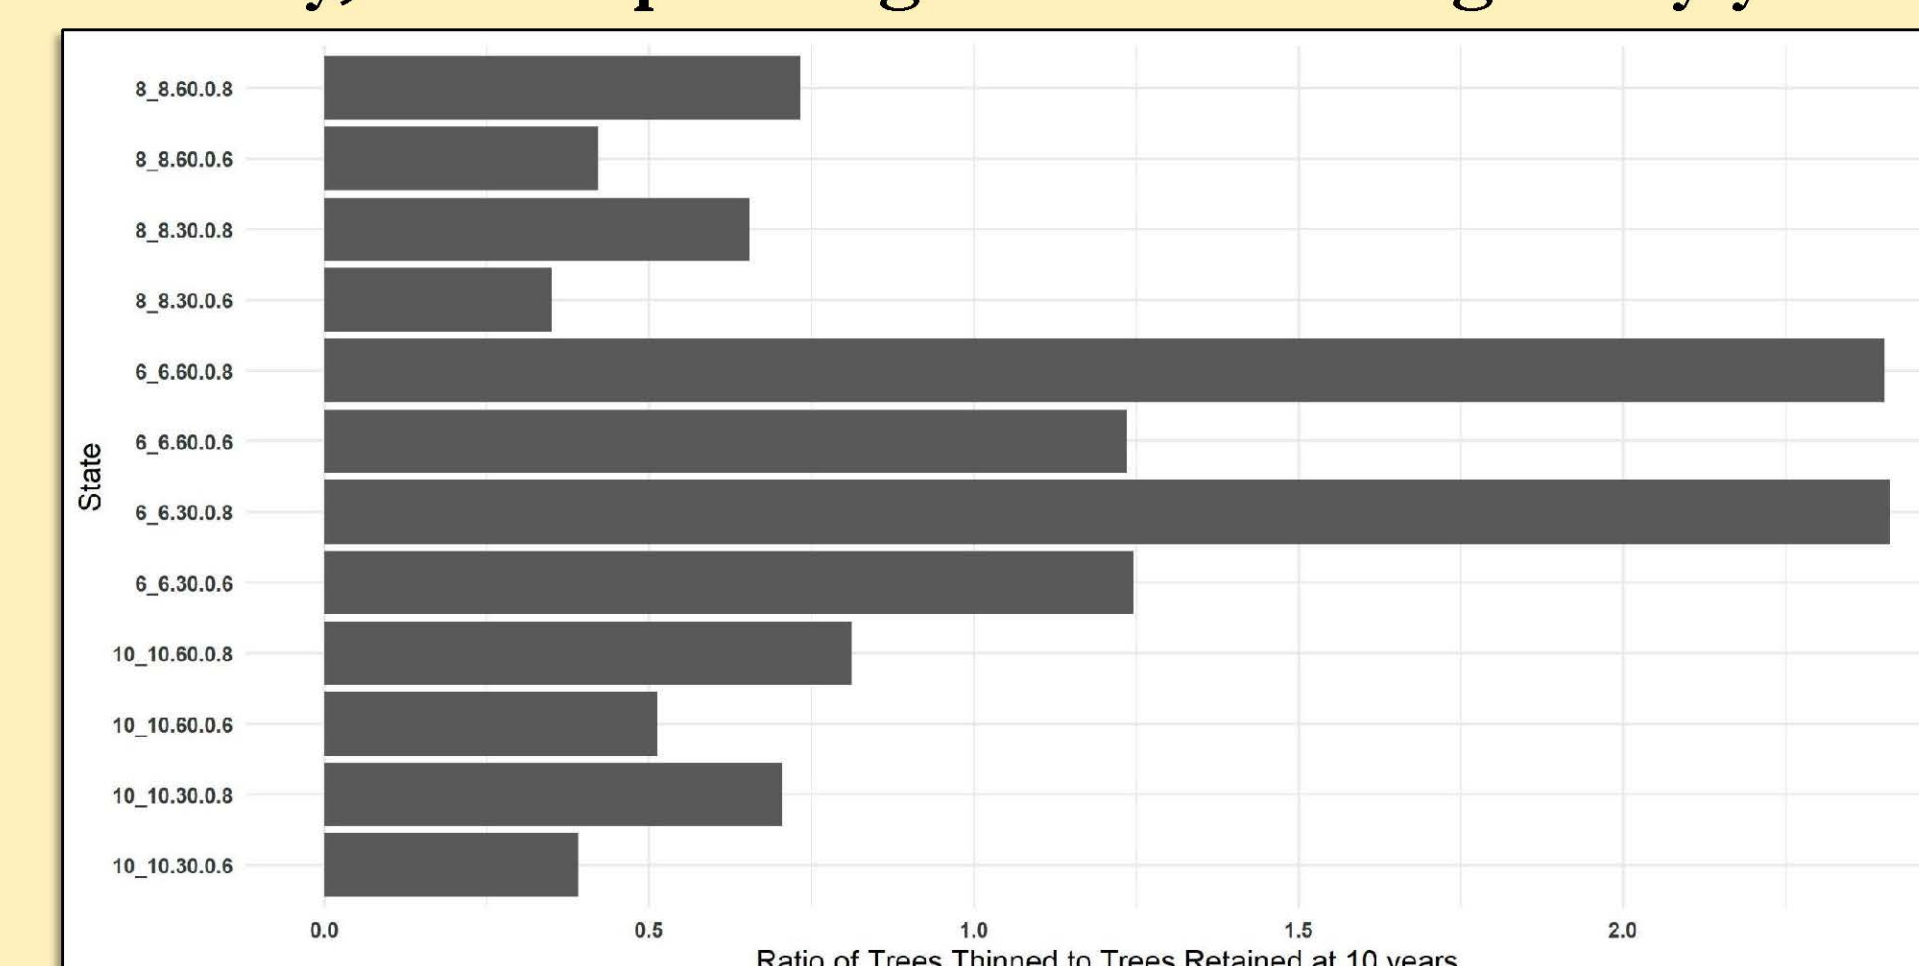

Fig 3 : Ratio of thinned trees to trees retained at Age 10
- For every tree retained at age 10, an average of 2.4 trees are removed under a 6 by 6 planting with 80% seedling survival at age 5. (Fig 3)